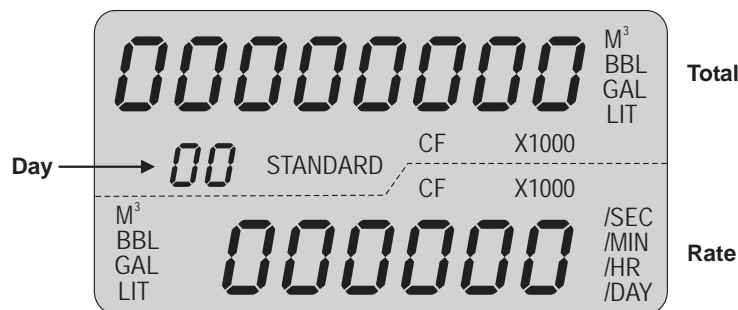

Figure A.3—Daily index (Day) displays
**Viewing Daily Logs.** To view daily logs with the explosion-proof switch, press and release the switch. (Do not depress the switch for more than 1 second.) The words “Daily Volume Archive” will scroll across the bottom of the LCD and the day index (Figure A.3) will display “01.” The daily flow total recorded at the last contract hour will appear at the top of the LCD.